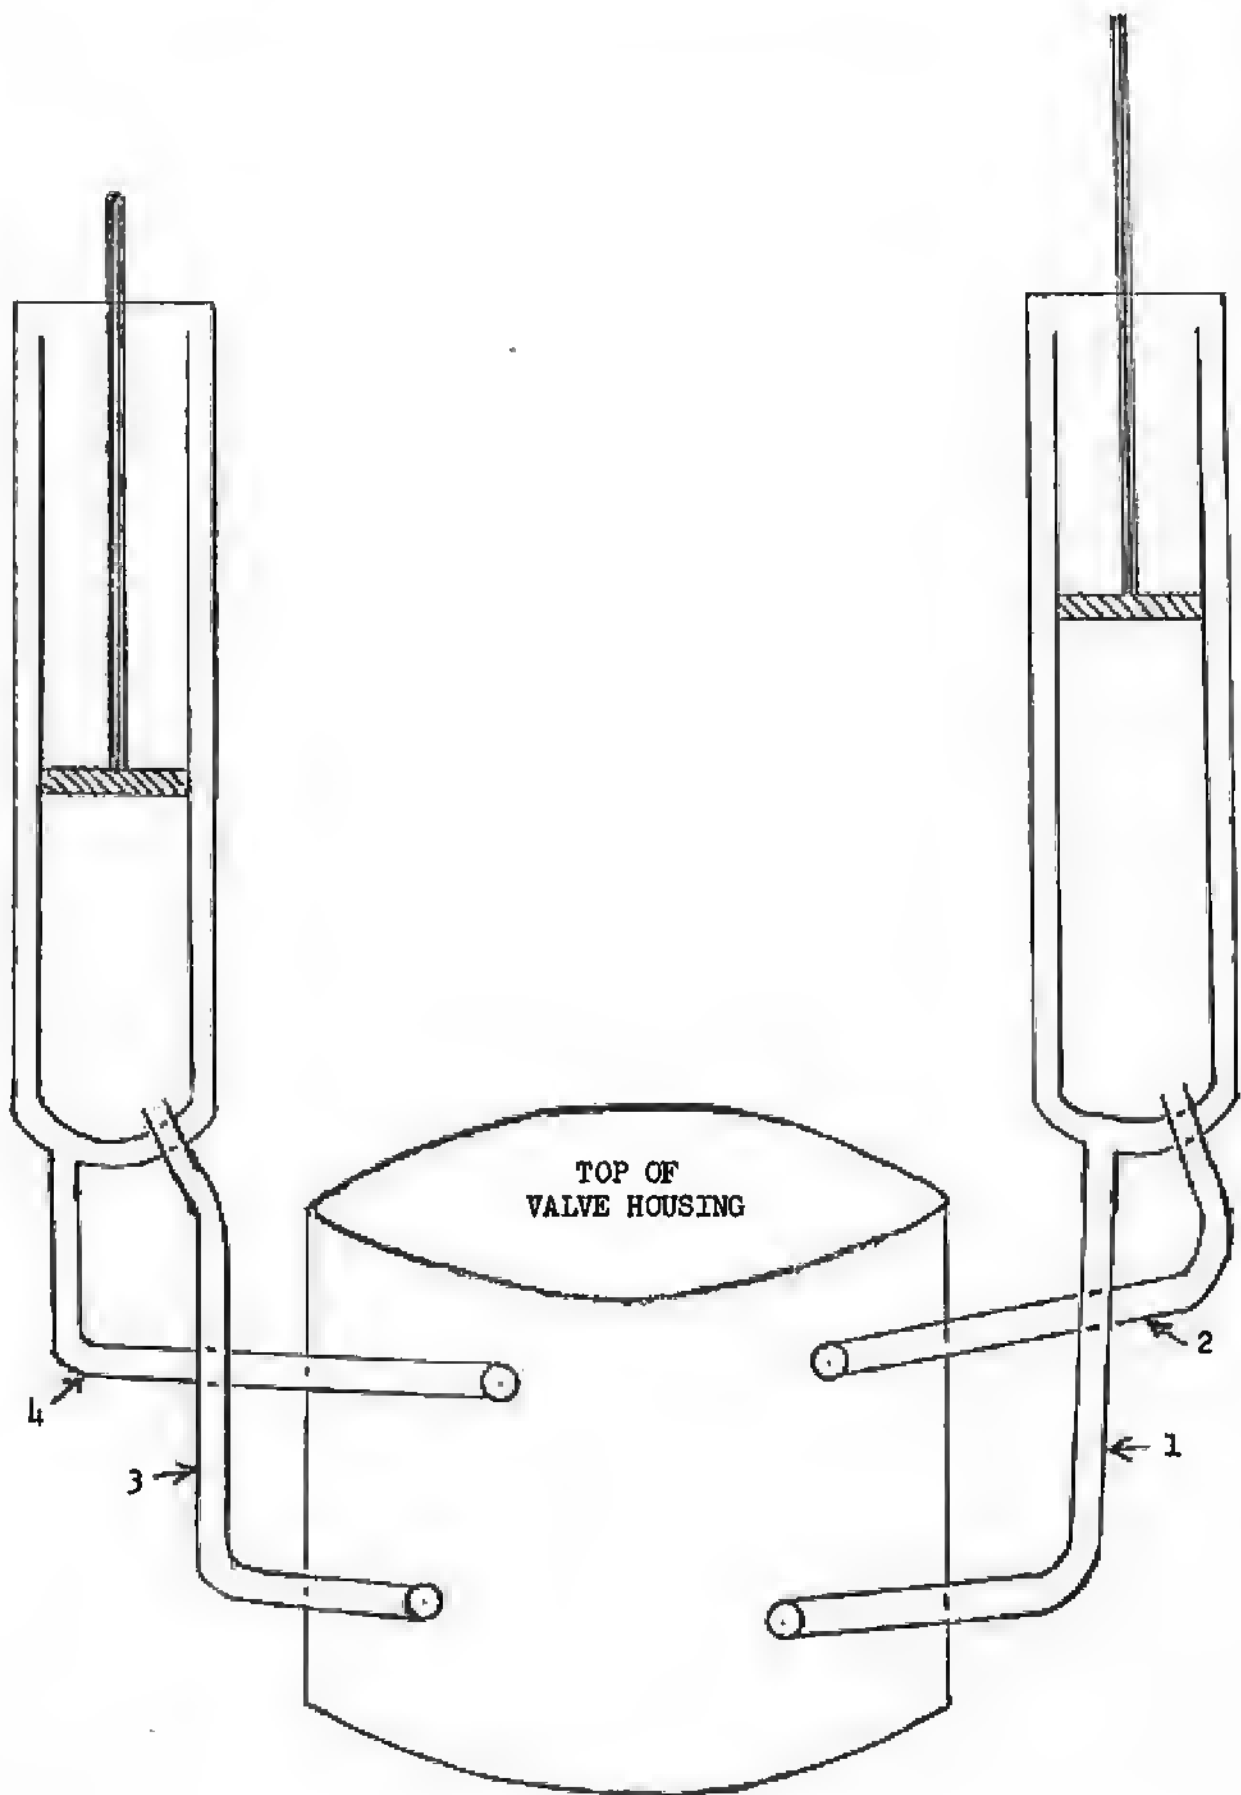

Figure 22 - Control Valve to Power Cylinder Tubing Installation
3. Install the hydraulic tubing in the cylinder ports as shown in Figure 22.